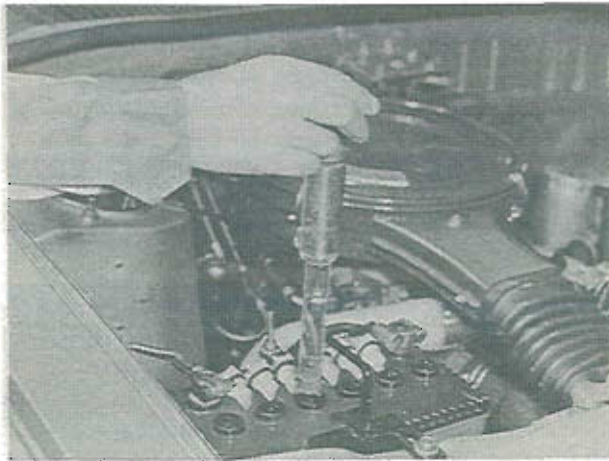

Fig. 5-1 Checking of specific gravity
2. Check the specific gravity of the electrolyte with a hydrometer, as shown in Fig. 5-1.